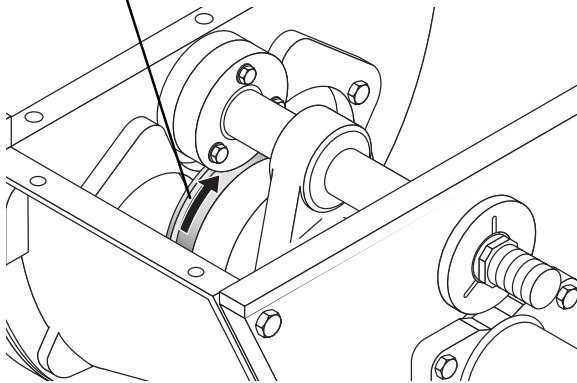

Figure 13
7. From inside the hopper, tap the cutting ring forward, towards the spectacle plate. The ring should come loose. (If it does not, loosen the cover bolts a little more, then gently pry the rock valve rearwards a little more). Rotate the ring 90 degrees clockwise (Figure 13). It does not matter which way you rotate, but to keep from forgetting which way you went last time, we recommend going clockwise each time.